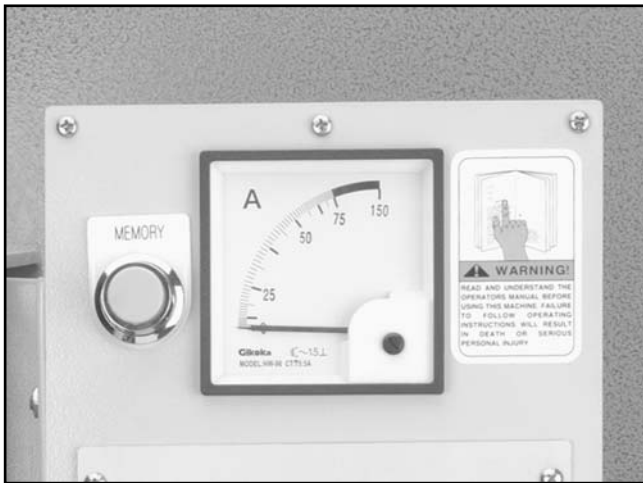

Figure 27. Load meter.
10. Watch the load meter (**Figure 27**) at the top of the control panel. The meter displays the amperage load that is being placed on the machine. Adjust the infeed conveyor feed rate until the meter reads between 25-30 Amps during the cutting operation.